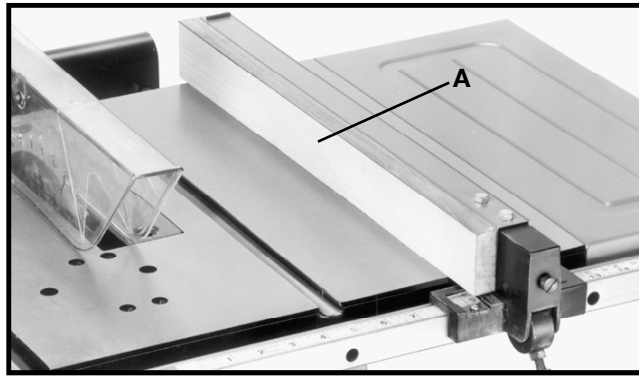

Fig. 50
Wood facings (A) Fig. 50 are necessary on some special operations to one or both sides of the rip fence. The wood facing is attached to the fence with screws through the holes in the fence. Most work will require a 3/4" stock, although an occasional job may require 1" facing.